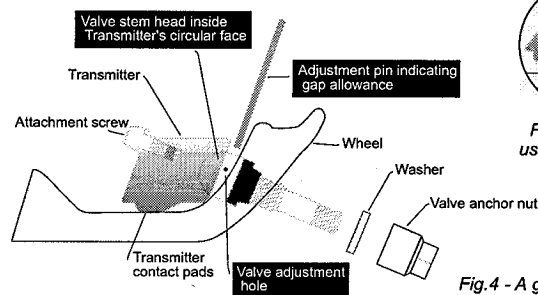

Fig.5 - No fit - use Strap Mount transmitters
2. Confirm that the valve transmitter will fit on this particular wheel. Pivot the transmitter, checking that both contact pads rest in the drop centre well of the wheel and that there is a gap at the top of at least the thickness of the adjustment pin (See Fig.4). If the transmitter cannot be made to sit flat the SmarTire strap mount transmitter must be used instead (See Fig.5).